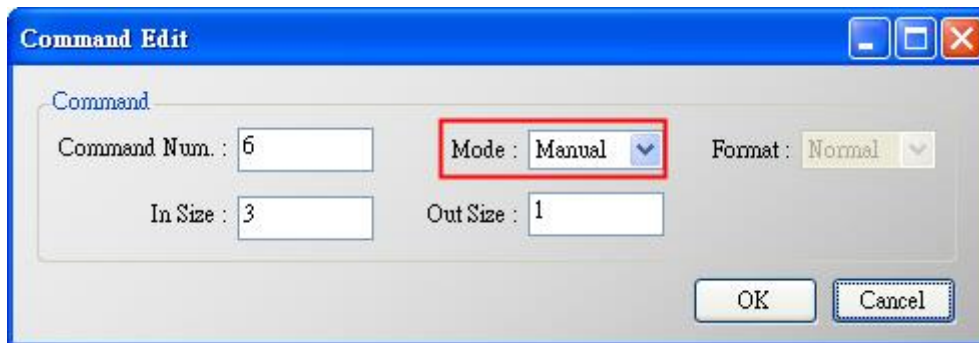

Figure 12-1 Add UserCMD(6)
(1) Run “HG_Tool” and connect to HRT-710.
(2) Open the “Device Configuration” page.
(3) Add “UserCMD(6)” and choose “Manual” option in “Mode” field. (Figure 12-1)